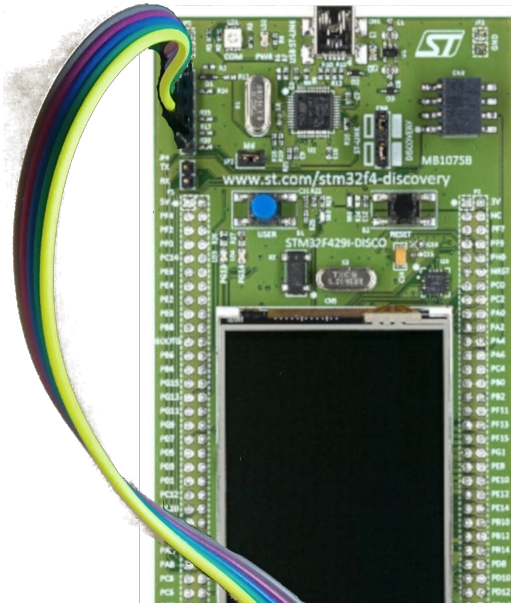

Fig. 4. STM32 Discovery board JTAG/SWD flasher
- (3) A **STM32F429I-Discovery1 board** (see Figure 4) that plays the role of JTAG/SWD flasher in order to program the WooKey device internal flash (for the first time, before the DFU mode is available: in production JTAG/SWD should be obviously deactivated through RDP level 2 readout protection fuses).